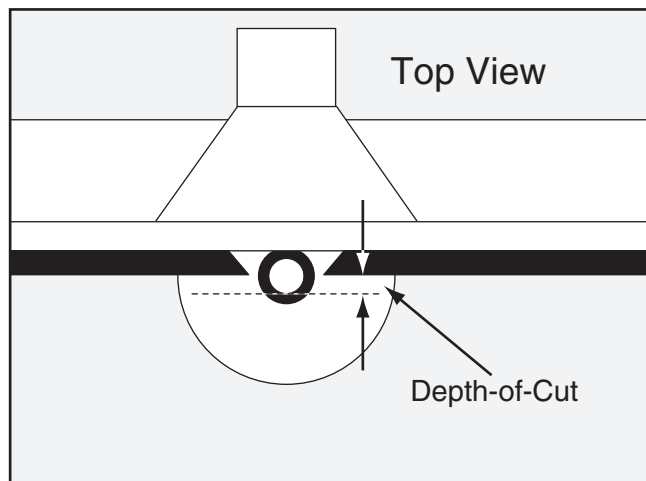

Figure 23. Groove cutting setup, top view (guard removed for clarity).
5. Raise the bit to the desired height, then adjust the fence assembly so that the fence boards are behind the bit the same distance as the desired depth-of-cut (see the illustrations in **Figures 23–24**).